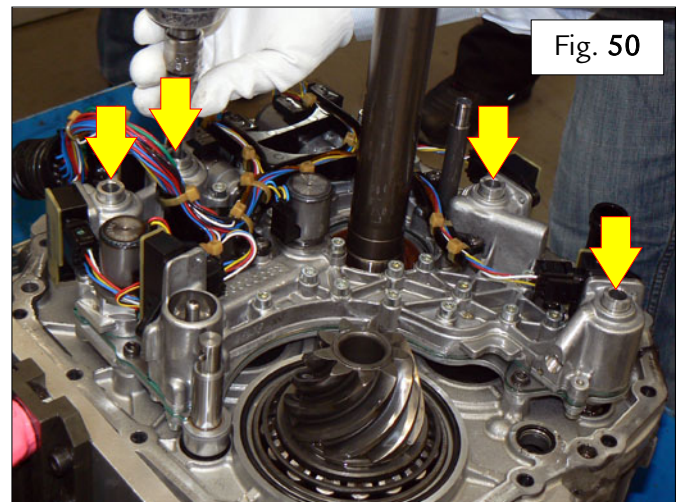

Fig. 50
- Hand-tighten the four new screws in the respective seats on the SAP – Fig. 50.
- Definitively tighten the screws to a torque of 6 - 7 Nm in a cross pattern – Fig. 50.